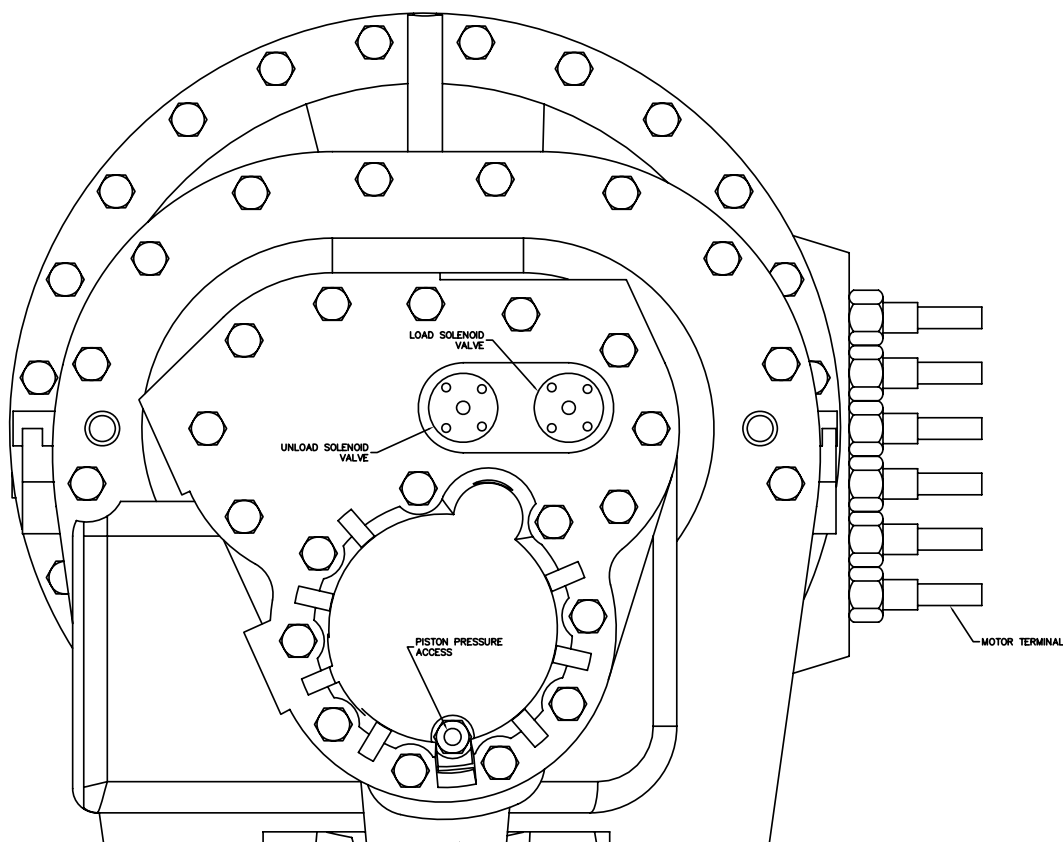

Figure 31. CHHC Compressor
2. Connect a manifold gauge set to the schrader valve located at the end of the piston housing. This schrader allows access to the pressure behind the male piston. Refer to Figure 31.